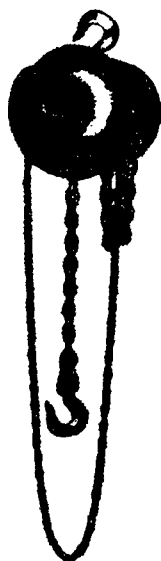

Fig. 7-1e Chain hoist
- e. Chain hoists provide a convenient means for hoisting heavy objects. The slow lifting travel of the chain hoist is advantageous for permitting small movements, accurate adjustments and cautious handling of loads. Chain hoists differ widely in their mechanical advantage, depending upon their rated capacity. The load capacity of a chain hoist usually is stamped on the shell of the upper block. The lower hook is the weakest part of the assembly. This is intended as a safety measure so the hook will spread before the rig is overloaded (See **Figure 7-1e.**)